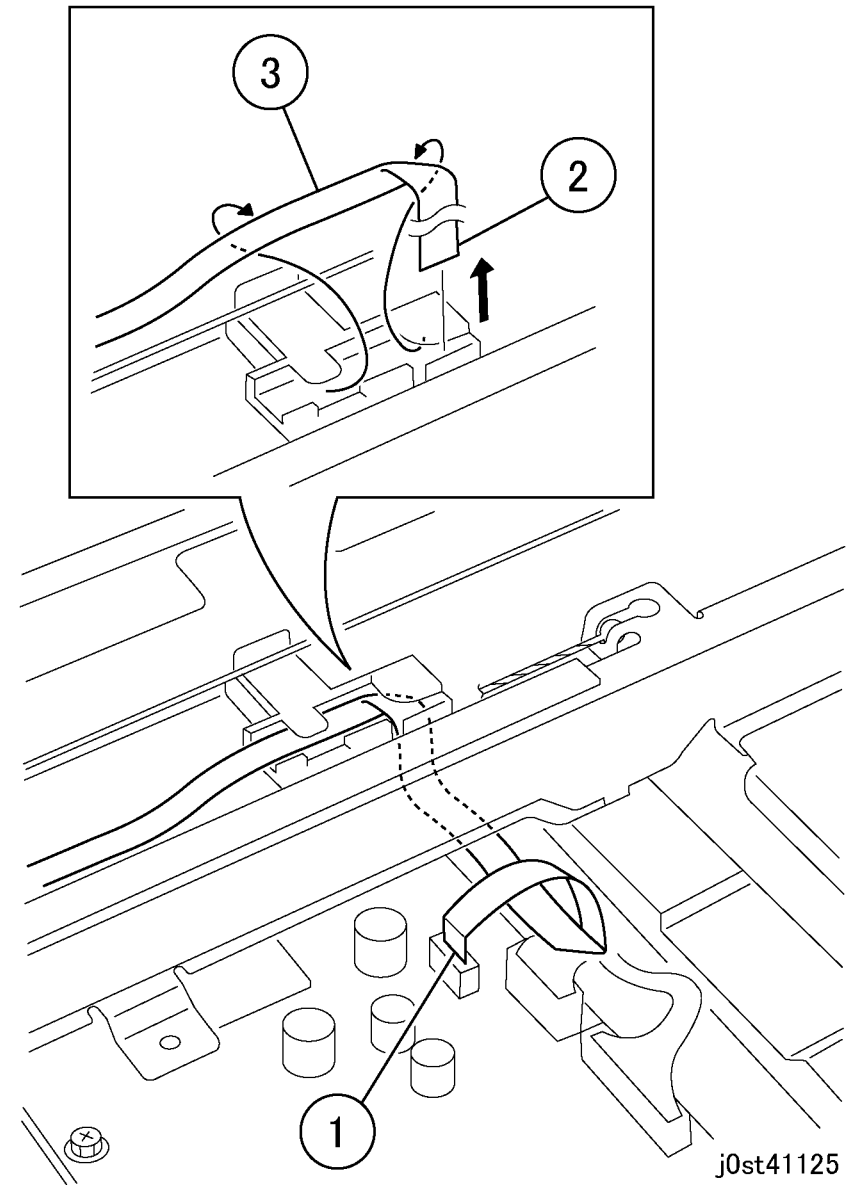

Figure 2 Disconnecting the connector (j0st41125)
4. Disconnect the connector of the Lamp Wire Harness. (Figure 2)